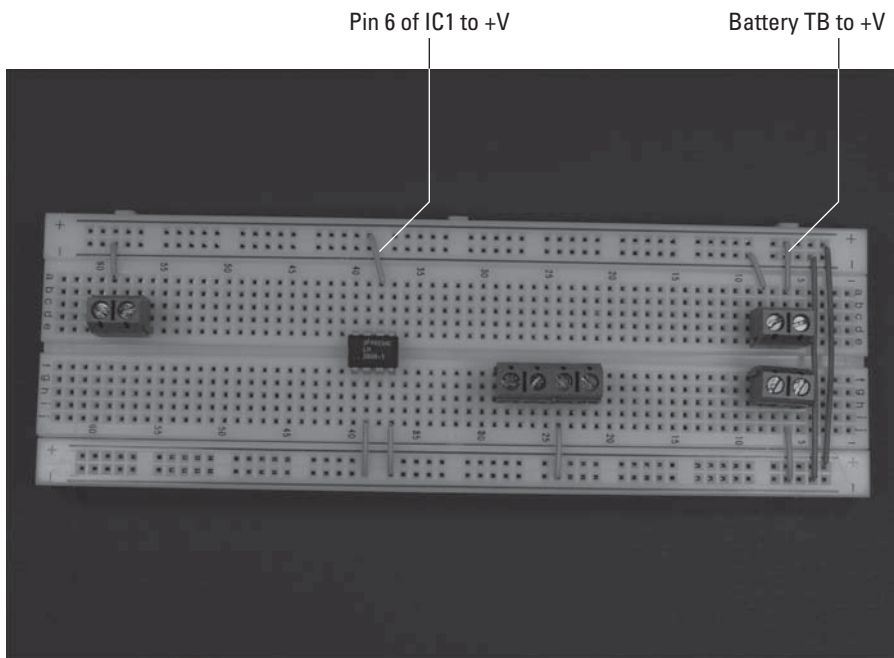

Figure 6-7: Connect components to the +V bus.
3. Insert wires to connect the IC and the terminal blocks to +V, and a wire between the two +V buses to connect them, as shown in Figure 6-7.